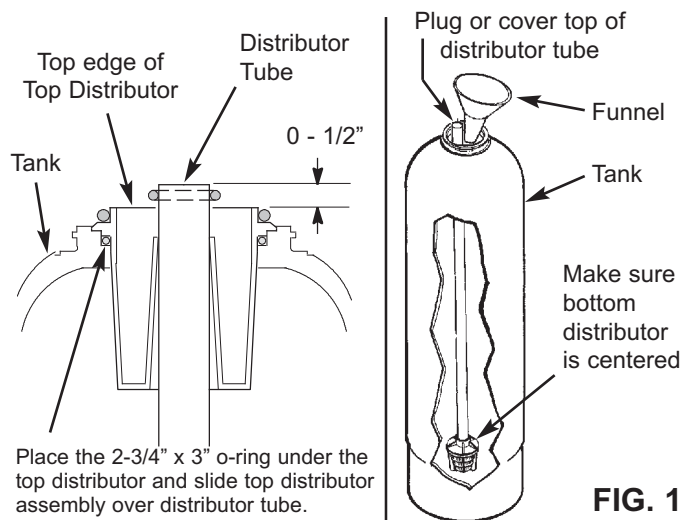

FIG. 1
2. Remove the shipping cap, top distributor and o-rings. On all models, place the bottom distributor into the tank. Check the distributor length as shown in Figure 1 and adjust if needed. Center the distributor in the tank.